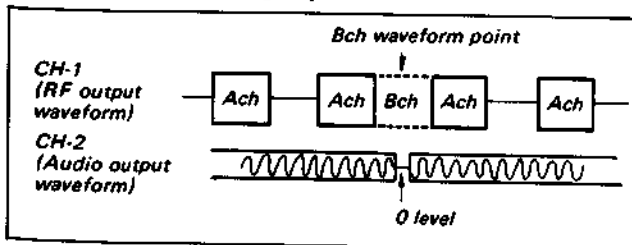

Fig. 3-57. Position adjustment of ACE assembly (1)
- 2) Play back the TRACKING segment of alignment tape KR5-1H or 2H (See Fig. 3-57).
- 3) Set the tracking control to the center detent position and confirm that the output waveform level is maximum and the 0 level point of the audio signal appears at the Bch waveform point as shown in Fig. 3-57. If the specification is not satisfied, perform the following Step 4.
- 6) Loosen the two position adjusting screws of the ACE head and adjust the cut-out section of section A for maximum RF output waveform and a 0 level of audio signal at the Bch waveform point. (See Fig. 3-57.)